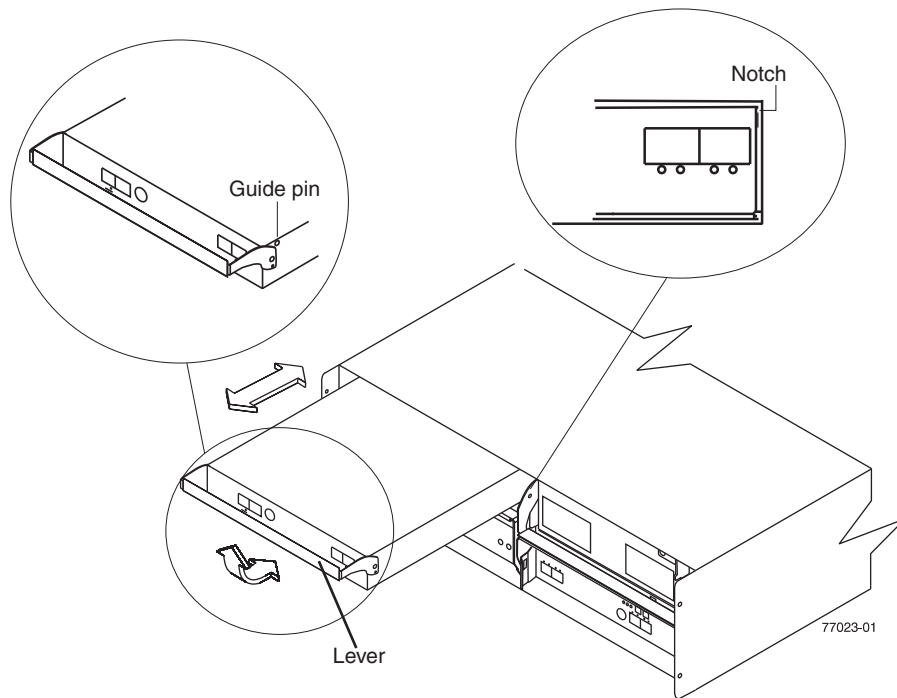

Figure 36. Removing and replacing an Environmental Service Module (ESM)
8. While squeezing the latch, pull the lever open 90° (so that the lever is horizontal). Pull the lever away from the chassis to remove the ESM from the EXP5000 midplane, as shown in Figure 36 on page 84.
- b. Slowly pull the lever away from the EXP5000 chassis to remove the ESM from the ESM bay, as shown in Figure 36 on page 84. (Remove the ESM from the chassis and place it on an electrostatic discharge (ESD) protected surface.)